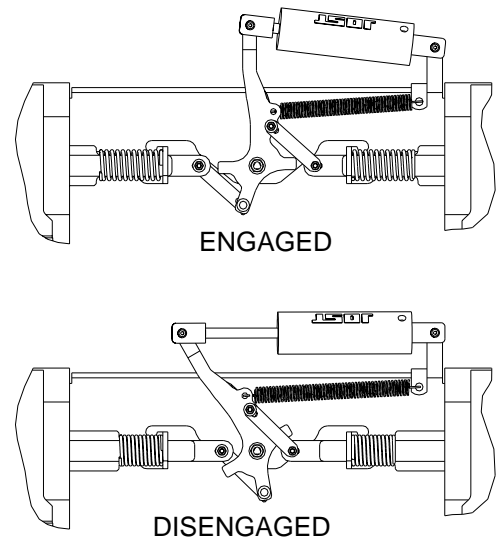

FIGURE 5
3. Disengage the locking plungers as shown in figure 5.
1. Engage the locking plungers as shown in figure 5.